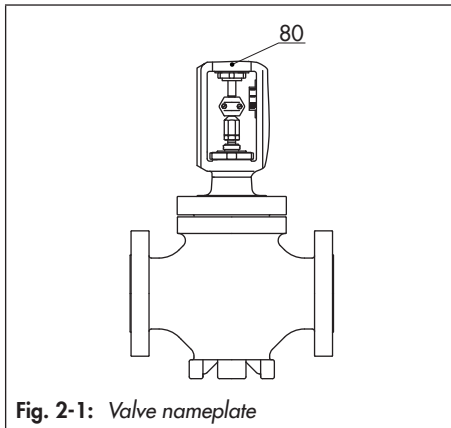

Fig. 2-1: Valve nameplate
The nameplate (80) is affixed to the yoke of the valve (see Fig. 2-1).